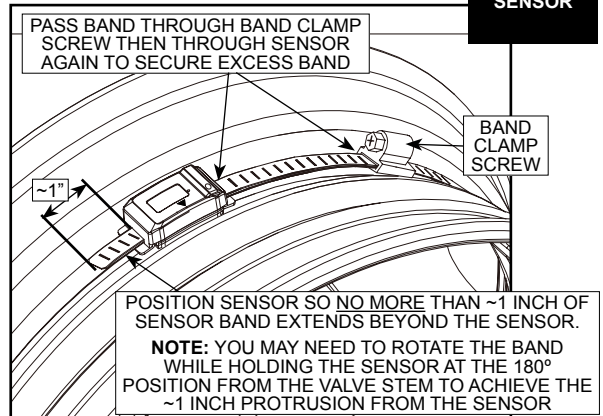

Figure 4: Pass-through internal sensor final install
6. Put the sensor and band clamp in the **center position** of the wheel hub and pass the band through the band clamp screw, then again through the pass-through sensor. See Figure 4.